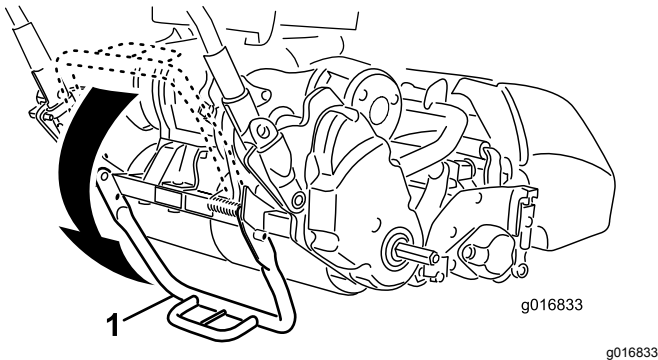

Figure 9
1. Push the kickstand down with your foot **in the center of the kickstand** and pull up on the lower center machine handle until the kickstand has rotated forward, over center (Figure 9).